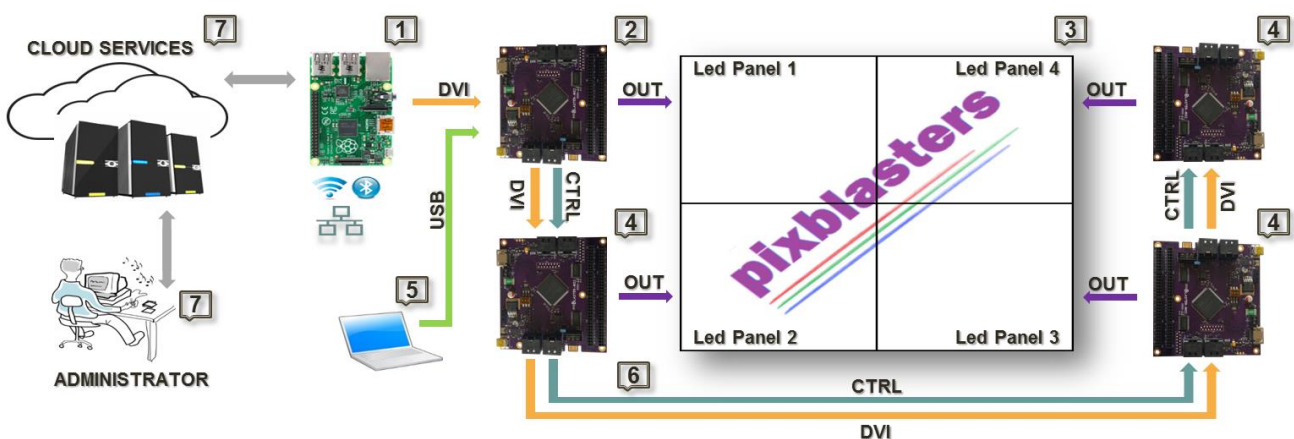

Figure 1.4 Architecture of Video LED Display Driven by Daisy-chained Pixblasters Controllers
Figure 1.4 explains the Pixblasters daisy-chain system connections and an example architecture of 18.8 m² (202 ft²) video display built of 60 LEDs/meter addressable RGB LED strips. Paragraph **Multi-controller Demo** Display Architecture showcases the Pixblasters demo display built with multiple LED controllers.
- Control computer (1) generates video for the complete LED display, and with the standard monitor cable, connects to the DVI compatible video input of the Master Pixblasters MS1 video LED controller (2).
- Optionally, the computer (1) can be locally or remotely controlled through different network interfaces. It can run any video display application, including digital signage players that automatically connect to online digital content services (7).
- The Master Pixblasters controller (2) controls Slave controllers (4) through the DVI video link. Each slave controller displays the exact portion of the video image on the attached LED panels (3) built of up to 16,384 RGB LEDs.
- The video (6) and the control links* between the chained Pixblasters MS1 controllers use ordinary Ethernet cables to enable simple and flexible display wiring. The links guarantee automatic and perfect LEDs synchronization.
- Each controller (2, 4) is configured for Master/Slave mode by on-board DIP switches, or optionally through the configuration menu. Other configuration parameters are setup only once for each board through a simple configuration menu on the PC (5) connected with the USB cable.
- Separate +5V DC power supplies, which are not shown in **Figure 1.4**, must provide sufficient power for the complete display.